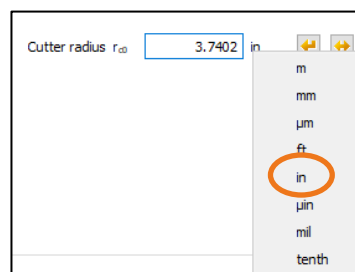

Figure 20. Switching the unit to «inch»
7. Under «**Manufacturing**», select «**Face milling (single index method)**» as the manufacturing process and then input the «Cutter radius». We recommend you use the sizing function  to the right of the «Cutter radius» input field to get a suggested value for the minimum cutter tip size (in accordance with KlingelInberg «Bevel gears», page 70) and then enter the cutter tip radius that was actually used, from Production. Click the right-hand mouse button to select the unit «inch»: this is usually used for Gleason cutters (see Figure 20).